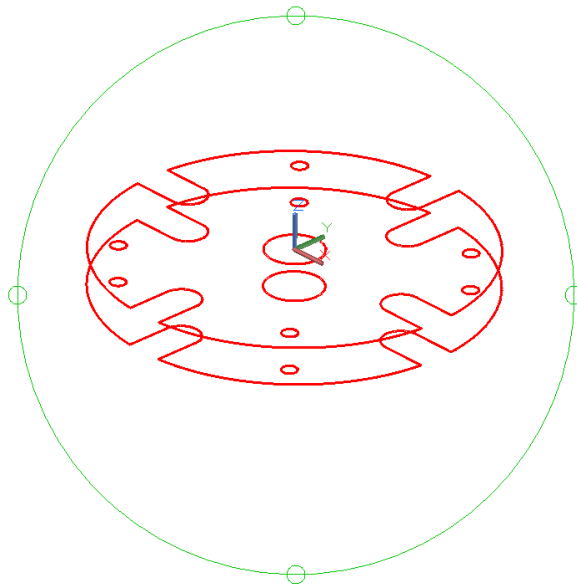

Figure Step 7
Step 7 Using the 3DFORBIT command, orbit the model slightly until it appears similar to the figure. (Figure Step 7)